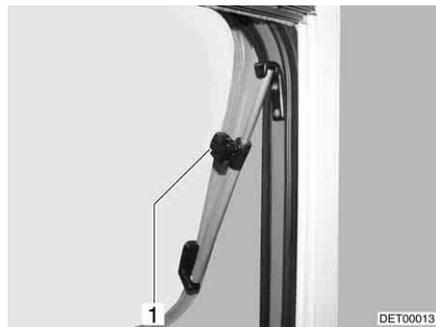

Fig. 59 Hinged window with rotary hinges
- Open the hinged window until the required position has been reached and use knurled knob (Fig. 59,1) to secure in position.
- Turn knurled knob (Fig. 59,1) until the latch is released.